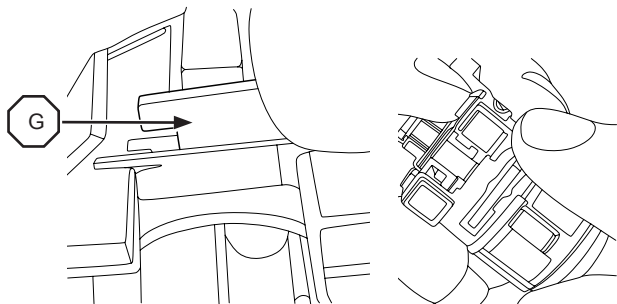
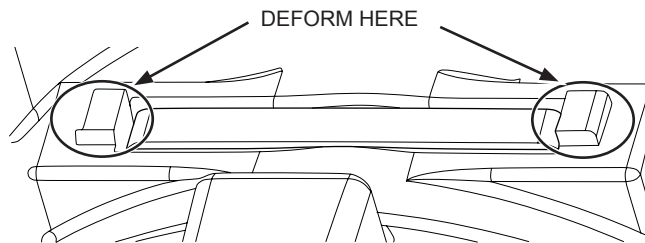

FIGURE 9
FIGURE 10
10. Insert 1 fixing plate in any of the two cavities (Refer to Figure 9) then using a tool deform the 2 stakcing points in the sides to keep the fixin plate into position (Refer to Figure 10). Repeat this step for the other side.